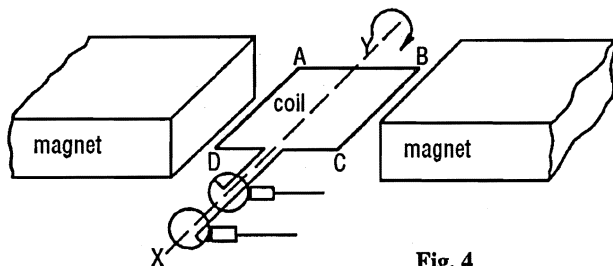

Fig. 4
- 60 Fig. 4 shows a rectangular coil ABCD placed between the poles of a magnet. The coil is rotated about the axis XY as shown.
(b) The magnitude of the induced e.m.f. varies as the coil rotates. Show on Fig. 4 one of the positions of the coil when the e.m.f. has its maximum value. [1]